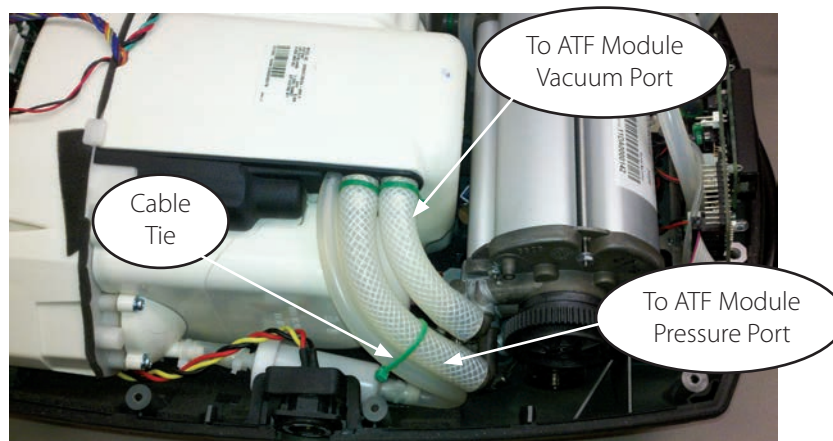

Figure 32: Removal of ATF Module Pressure and Vacuum Tubes.
5. Cut the cable ties to the braided tubes that connect into the ATF pressure and vacuum ports as shown in Figure 32. Disconnect the braided tubes.
- Place the ATF in the Unit Case and remove the caps from the ATF Ports. Install the Braided Tubes into the ATF pressure and vacuum ports as shown on Figure 32. Do not use oil or grease if the tubing is difficult to install. Secure joints with cable ties.
14. Use cable tie to secure the silicone tube to the braid tube to ensure that there is NO kinking on the bend as shown on Figure 32. Hand-tighten the cable tie. Inspect the tubing to ensure the tubing is not kinked.